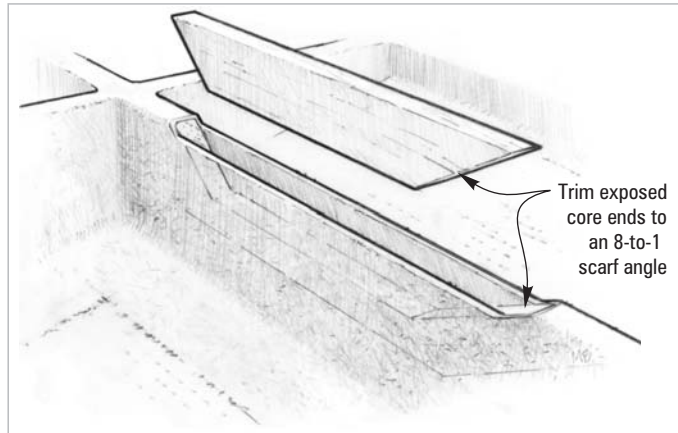

Figure 3-3 Trim a new piece of core material to fit the size and shape of the void in the existing core. The scarf may run vertically or horizontally.
1. Cut out the damaged section of the existing stringer. Remove as much skin as necessary to remove all of the damaged core. Trim the exposed core ends to a minimum 8-to-1 scarf angle (Figure 3-3). The scarf may run vertically or horizontally.